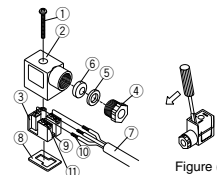

Figure 1)
- After loosening the screw ①, then if the housing ② is pulled in the direction of the screw, the connector will be removed from the body of equipment (solenoid, etc.).
- Pull the screw ① out of the housing ②.
- On the bottom part of the terminal block ③, there's a cut-off part ⑨. If a small flat head screwdriver is inserted between the opening in the bottom, terminal block ③ will be removed from the cover ②. (Refer to Figure 1.)
- Remove the cable gland ④ and plain washer ⑤ and rubber seal ⑥.
- Pass them through the cable ⑦ in the order of cable ground ④, washer ⑤, rubber seal ⑥, and then insert into the housing ②.
- From the terminal block ③, loosen the screw ⑩, then pass the lead wire ⑩ through, then again tighten the screw ⑩.